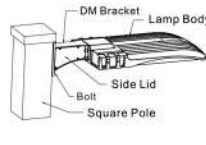

Figure 3-2
- 2: Fix the direct bracket to the square pole with bolt. Connect the power cable to the pole cable, make sure good protection on the wire connection, and put the wire in the direct bracket; close the side lid and tighten it, (Figure 3-2) then finish in installation.